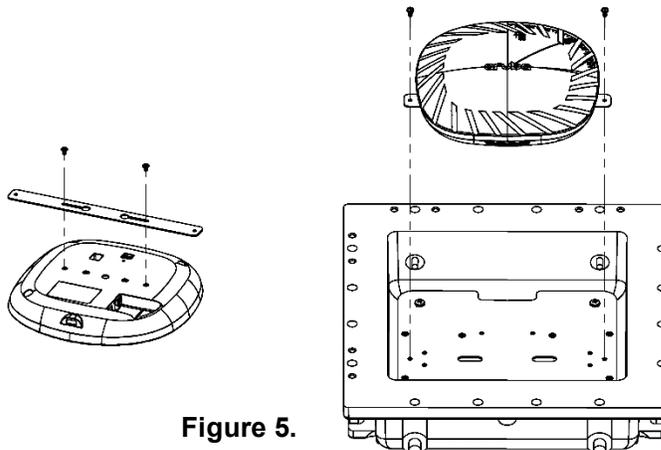

Figure 5.
**Aruba AP-5XX Access Points-** Using the QTY (2) M4 screws that are included with the Aruba access point, attach the Aruba adapter strip to the back of the access point. Plug in the ethernet cable. Attach the strip to the backplate using the included #8 screws. See Figure 5.